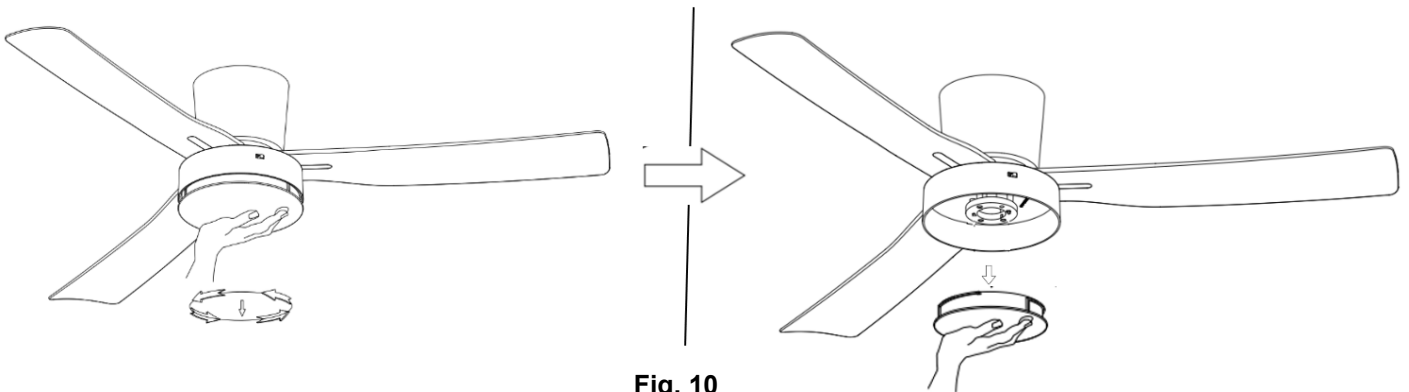

Fig. 10
- If a lamp (not included, sold separately) is required, remove the bottom cover from the fan assembly by turning counterclockwise. (Fig.10)